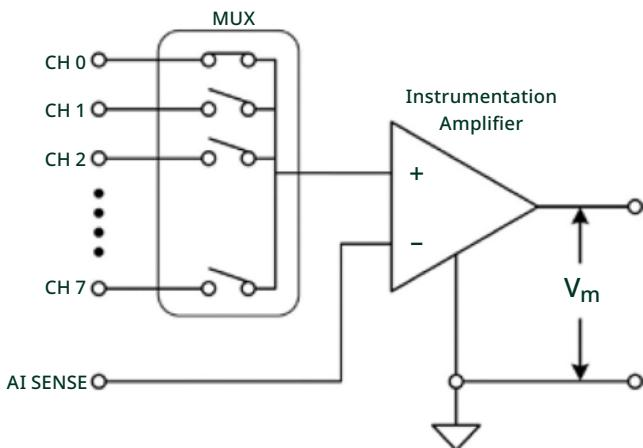

Figure 40. An NRSE instrument's common point is the voltage provided at the negative terminal of the instrumentation amplifier.
- NRSE instruments reference a common point; however, the common point is the voltage provided at the negative terminal of the instrumentation amplifier. In the NRSE example shown in Figure 40, the common reference is the AI SENSE line; therefore, the measured voltage is the potential difference between CH X and the voltage at the AI SENSE channel.